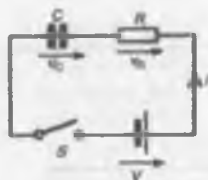

Figure 18.1
- (a) The circuit diagram for a series connected C - R circuit is shown in Fig. 18.1. When switch S is closed then by Kirchhoff's voltage law: